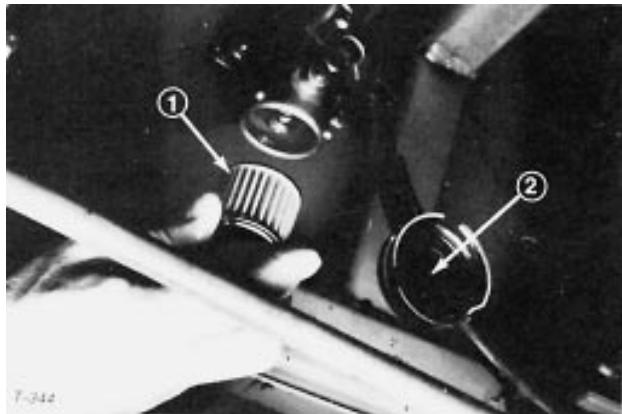

Figure 34
- Place a drain pan under fuel pump and remove cover from fuel pump with 17 mm wrench (Fig. 34). Take care not to damage wire while removing cover.
- Pull filter out of pump body (Fig. 34).
- Clean magnet of any residue (Fig. 34), insert filter into body and install cover.